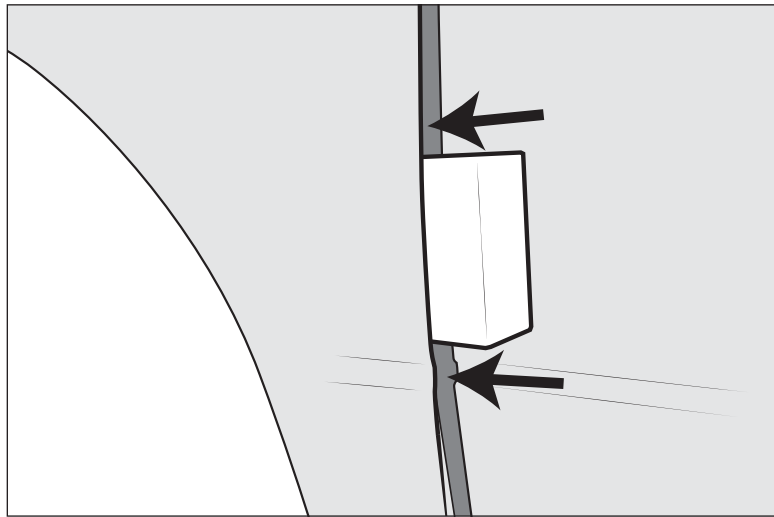

Figure 9: Driver-side shown
- B. Pull fender away from body and place a foam block or rag between the fender and door to hold the fender away from the body (fig. 9).